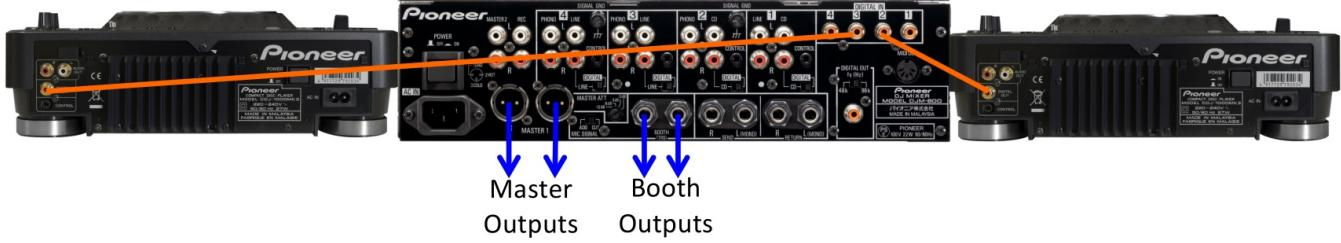

Figure 13: An image of the back panel of the DJM800 with two CDJ1000s, with digital connections.
- Using digital connections between the CDJs and mixer, as shown on Figure 13.